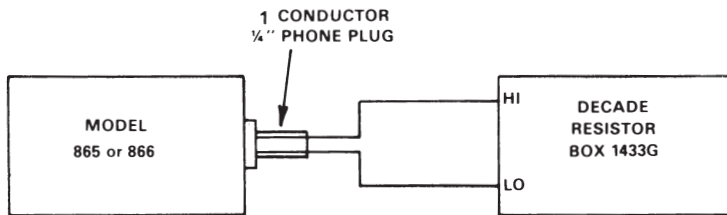

Figure 3. Calibration Set Up
1. Set up the circuit shown in Figure 3. See Table 3 for recommended test equipment.
2. Connect the decade resistance box to the Model 865 or Model 866. Refer to Figure 3. Refer to Table 4 for Model 865 calibration. Refer to Table 5 for Model 866 calibration.